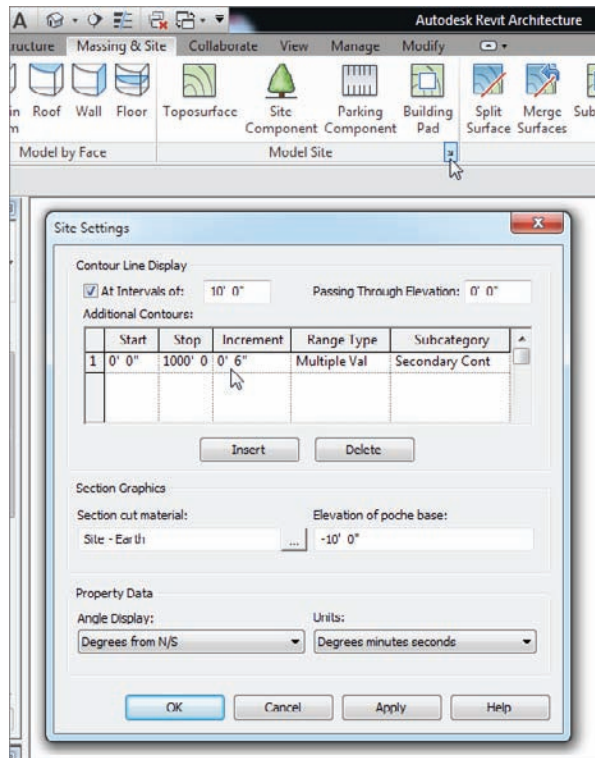

FIGURE 18.19 Changing the additional contour increment
1. Click the arrow in the lower-right corner of the Model Site panel, as shown in Figure 18.19.
2. In the Site Settings dialog that opens is a field that contains additional contours. In the Increment panel, change the value 1'–0" (300mm) to 6" (150mm) (see Figure 18.19).